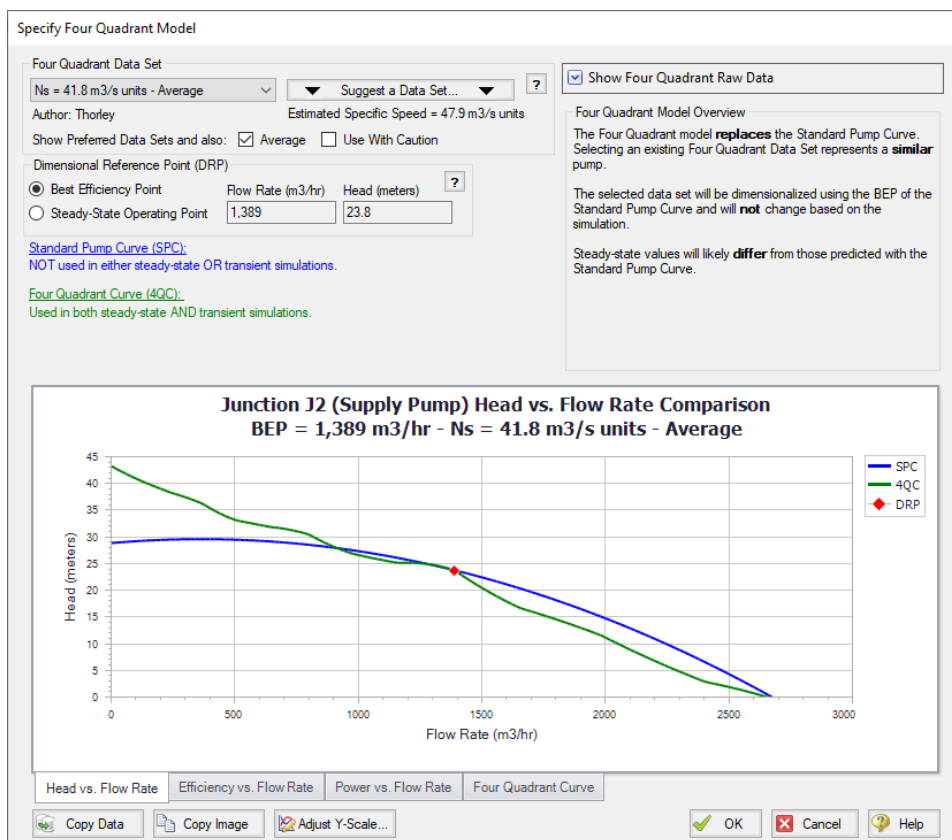
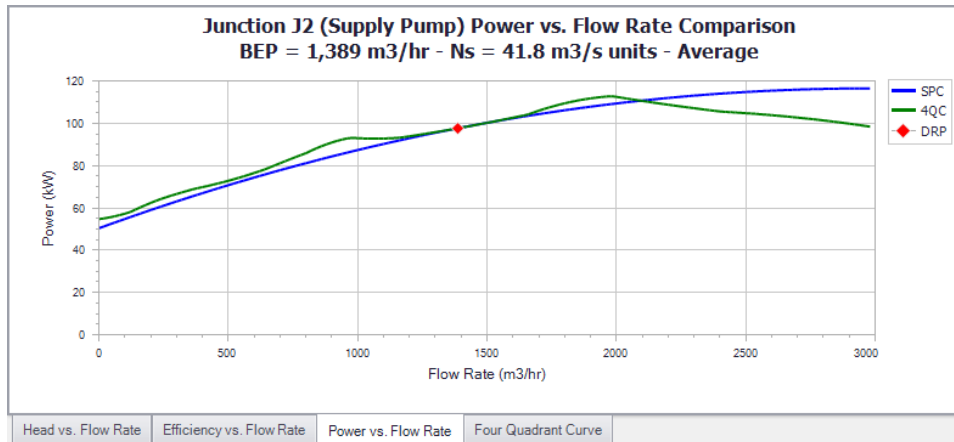

Figure 7: Specify Four Quadrant window showing the Head vs Flow data for the Ns = 41.8 data set dimensionalized using the BEP
Figure 8: Power vs Flow graph from the Specify Four Quadrant window for the $N_s = 41.8$ m3/s units data set dimensionalized using the BEP
1. In the current Four Quadrant Curve Scenario check that BEP is selected for the DRP (dimensional reference point). Note that the head, efficiency, and power curves versus flow can be seen plotted against the Standard Pump Curve (referred to as the manufacturer's curve for this example) at the bottom of this window, as shown below for head in Figure 7 and power in Figure 8.
Note: The raw data from the graphs shown in the Specify Four Quadrant Model window (Figure 7 and Figure 8) can be copied using the Copy Data button at the bottom of the window to compare this data for all scenarios in Microsoft Excel.
Each individual four quadrant curve can be compared to the manufacturer's curve within the Specify Four Quadrant Model window in Impulse, as was seen above in Figure 7 and Figure 8 for the 41.8 m³/s units data set. Each four quadrant curve will intersect the manufacturer's curve at the dimensional reference point, which is shown in red (1,389 m³/hr, see Figure 4 BEP). For the head, power, and efficiency curves we will want to check how similar the shapes of the curves are and how close they are to each other. Focus should be given in particular to how well the curves match near the initial and final steady state flow rates, as this will indicate how different those operating points will be.